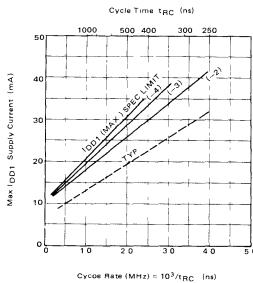

Fig 2 I_{DD1} vs t_{RC}
- I_{DD1} , I_{DD3} and I_{DD4} depend on cycle rate. See figures 2, 3 and 4 for I_{DD} limits at other cycle rates
rent waveforms in Fig 5). In system applications requiring lower power dissipation, the operating frequency (cycle rate) of the TMM416P/D can be reduced and the (guaranteed maximum) average power dissipation of the device will be lowered in accordance with the I_{DD1} (max) spec limit curve illustrated in Fig 2.